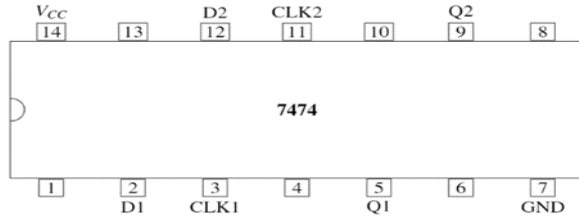

Figure 3: Pin Diagram of 7474 IC
- 2) Connect the Arduino, 7447 IC and the 7474 IC according to Table 2 and Fig 3.